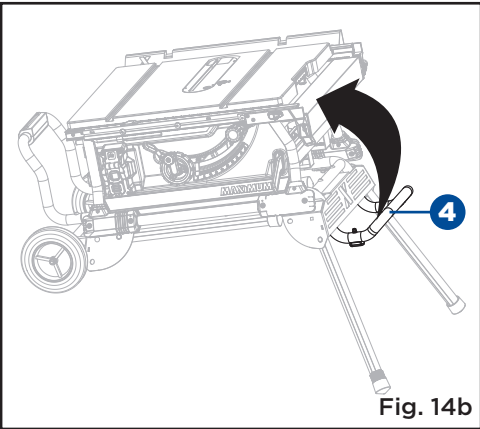

Fig. 14b
- Grasp the handle I (4) and tilt saw back onto wheels until the stand is balanced on the wheels (5) and stand support assembly (1). (Fig. 14b-14c)